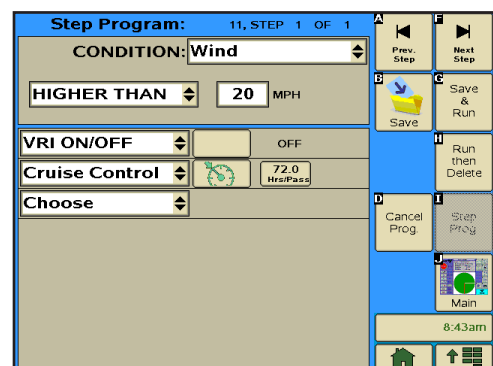

Figure 146-4
- e) Enter **7, 2** for 72 hours per revolution and push **Enter**. Refer to Figure 146-4.